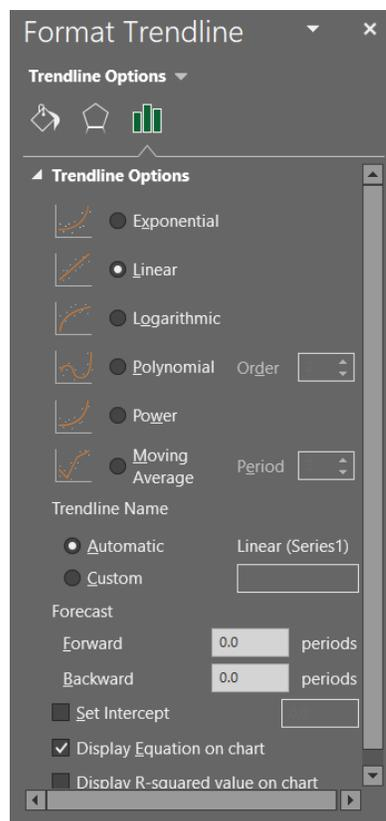

Fig. 6: Trendline Options
9. Under Trendline Options on the right-hand menu, ensure that Linear and Display Equation on Chart are selected (Fig 6).